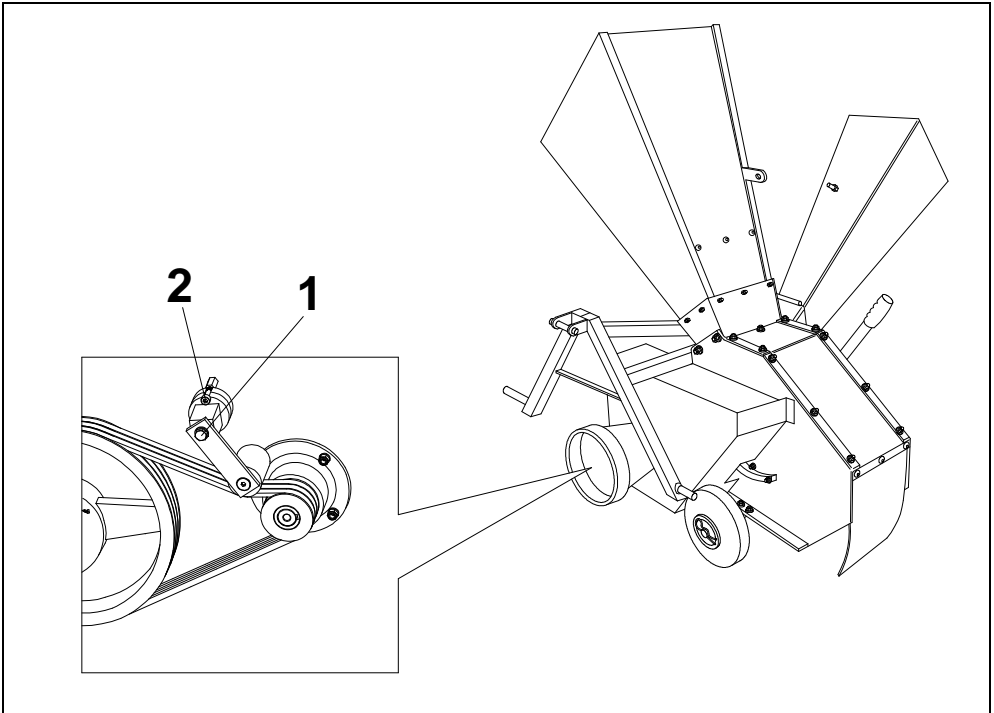

Fig. 27
- Remove the belt guard (Fig. 27).
- Adjust the belt tension by tightening the adjusting screw (1) and the locking screw in the tensioner (2).
- Tension the belts optimally by tightening the adjusting screw (1) and the locking screw in the tensioner (2).